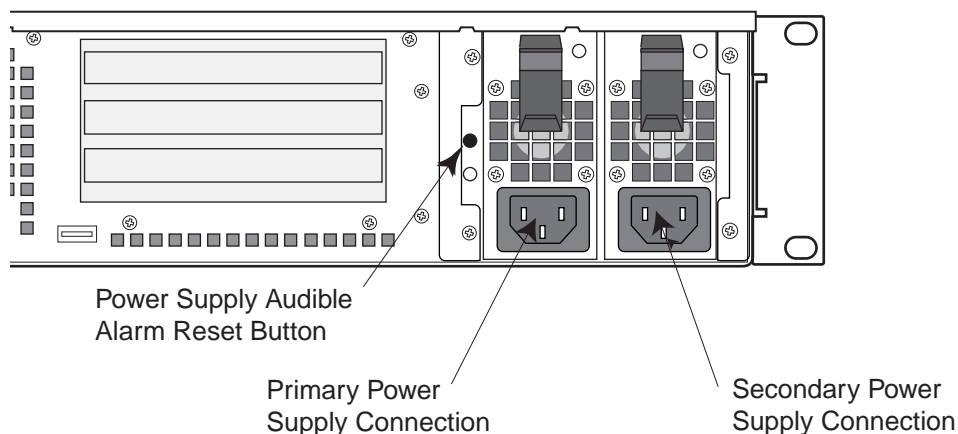

Figure 3-3 System Rear View Power Connections
1. Place the female end of the power cable into the power supply connector located on the back of the chassis. Refer to Figure 3-3 for the exact location.